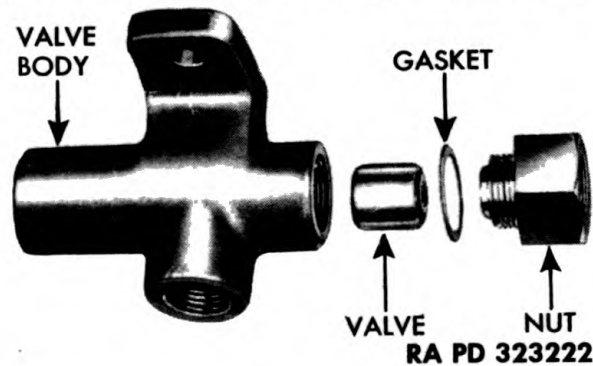

Figure 228 — Two-way Valve Disassembled
c. Disassemble (fig. 228). Unscrew the end nut with gasket from two-way valve body. Remove piston by tilting valve body to allow piston to slide out of cylindrical bore into hand. **CAUTION:** *Do not drop piston.*
(1) Clean all parts thoroughly with dry-cleaning solvent. Dry with compressed air.
(2) Inspect valve seats in bottom of cylindrical bore in valve body, and also in end nut, for smoothness. Replace end nut or body if seats are defective.
(3) Inspect piston inserts. They must be smooth and show uniform seating marks. Piston must slide freely in body.
e. Assemble (fig. 228). Dip piston in clean engine oil, and insert in cylindrical bore in valve body. Place new gasket on end nut, and install nut into valve body and tighten.